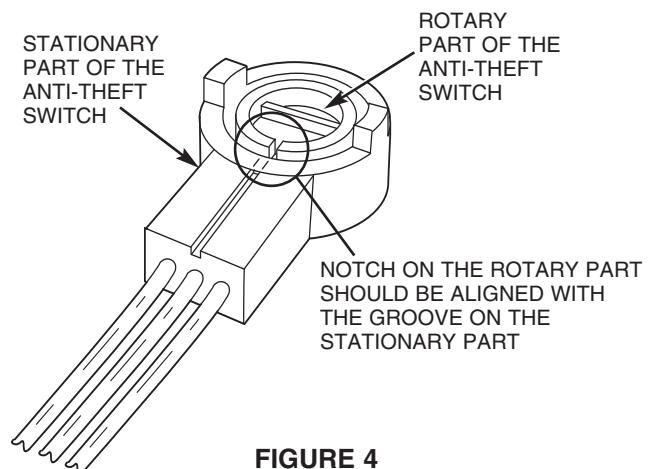
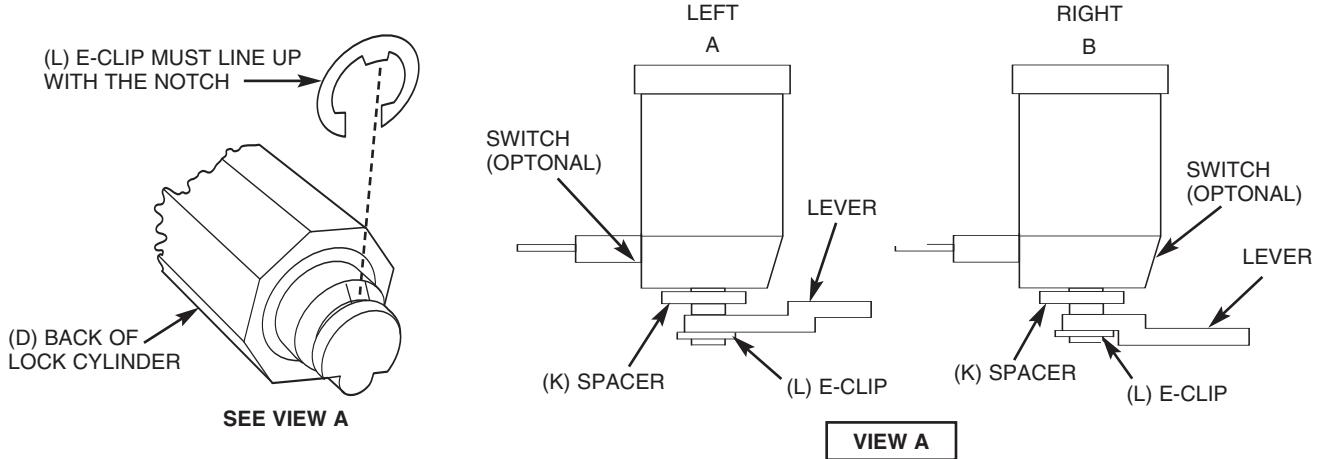

FIGURE 4
FIGURE 6
- NOTE:** A. Before the lock is removed from the installed location, record the orientations of the lock lever and anti-theft switch (if so equipped - Mustang). If the lock is in its normal position, note the direction at which the lever is pointing (forward, rearward, upward or downward of the vehicle). If the lock is not in its normal position, look at the back of the lock cylinder sub-assembly and note the direction at which the lock lever is pointing with respect to the drainage hole located at the bottom of the lock case (E). Note also the offset of the lever (refer to Figure 6).
- B. Carefully remove the E-clip (L) and disassemble the lock lever and white spacer (K) (if so equipped). Keep the E-clip (L), and lever, anti-theft switch and white spacer (K) (if so equipped) in a secured place until the new lock has been built and is ready to be installed in the vehicle.
15. Assemble the anti-theft (if equipped) and then the lock lever in the orientations and directions recorded in steps A and B on page 2 (for set 2C6Z-1521990-BC add spacer (K) instead of switch) (refer to Figure 6). When assembling the anti-theft switch to the lock, DO NOT rotate rotary part of the anti-theft switch with respect to the stationary part of the anti-theft switch or vice versa (refer to Figure 4).
16. Install the E-Clip (L) to the back of the lock cylinder sub-assembly (D) to secure the lever or spacer. Note that the tab on the E-Clip (L) should fit into the indentation on the back of the lock cylinder sub-assembly (D). (Refer to Figure 6) for proper orientation of the E-Clip (L).